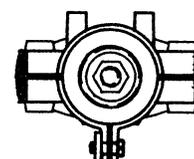

FIG. 3
5. Gently tap the base of linkage housing, around the bonnet adaptor (11), with a rubber mallet to properly seat the housing against the adaptor.
6. Assemble washer plate (4) and threaded plate (5) onto the housing tabs with 2 screws (6). Tighten the tab screws (6) evenly until snug against the tabs.
7. Rotate the linkage to align it with the valve ports as shown in FIG. 3.
8. Evenly torque the tab screws (6) to 25-30 in-lbs.
9. Face the lever (12) and rotate it counterclockwise until the connecting rod (10) contacts the lower valve stem nut (1).
10. Thread the upper valve stem nut (1) onto the valve stem (8) until 1/16" to 1/8" of valve stem is visible above the nut (1).
11. Rotate the lever (12) clockwise to lift the connecting rod (10) up and around the upper valve stem nut flats (1).
12. Hold the connecting rod (10) with a wrench to keep it from twisting and tighten the lower valve stem nut (1) against the connecting rod.
13. Rotate the lever (12) until valve stem is in the full up position.
14. Loosen the set screws on the lever (12). Reposition the lever so that the end of the handle is just inside the left side of the linkage housing. Tighten the 2 set screws on lever.